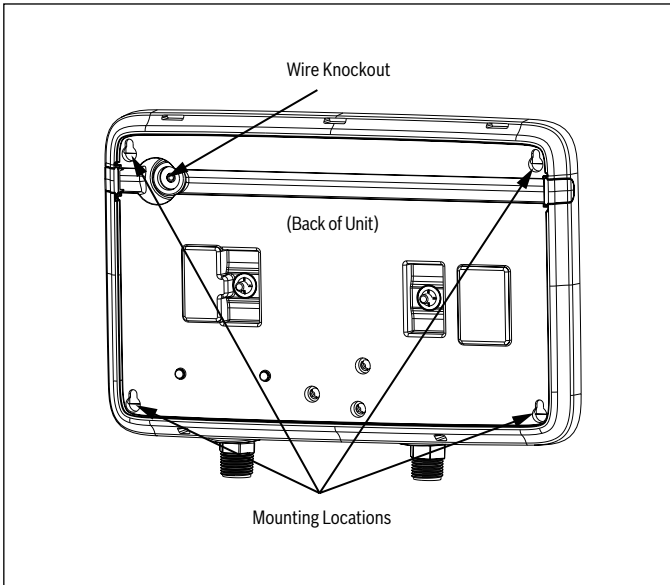

Figure 7
5. Pass electrical supply wires through the round wire knockout in the back of the unit. (Refer to Figure 7).